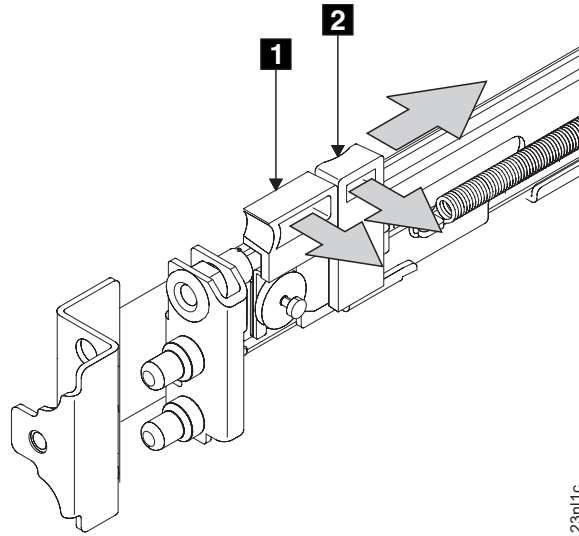

Figure 39. Opening the front latch-lock carrier assembly
3. Gently push the latch lock **2** away from the rail as you move the latch lever **1** toward the far end of the rail (Figure 39 on page 45). The latch-lock carrier assembly slides against the spring tension.